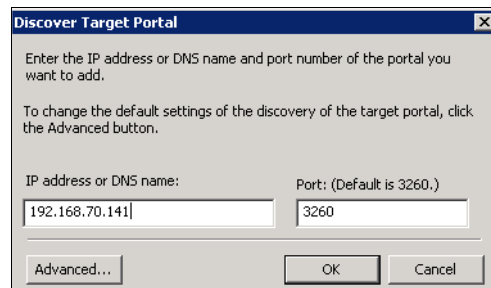

Figure 5-38 Discover Target Portal window
5. Click **Discover Portal**, enter the IP address of another IBM Storwize V7000 iSCSI port (Figure 5-38), and click **OK**.